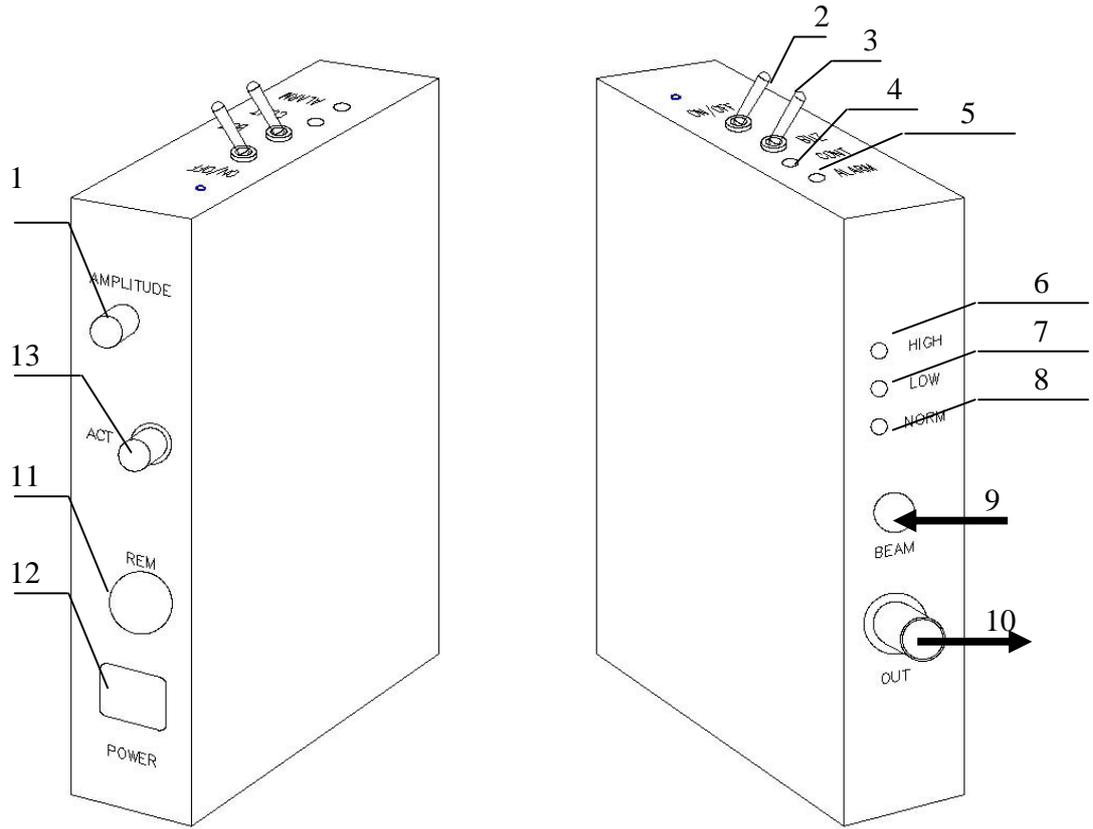

Figure 5.2
5. Direct a part of output radiation (≤ 10 mW) to the photodiode of the LS-6.0. At suitable level of light, the green LED "Normal" is on (8 in Fig 5.2).
6. Connect the 50-Ohm BNC connector (10 in Fig.5.2) of the LS-6.0 to a 400 MHz oscilloscope.
8. Switch on pulse-enable switch (2 in Fig.5.2). Green LED "control" (4 in Fig.5.2) lights on.
9. Rotate amplitude adjust (1 in Fig.5.2) clockwise (i.e. maximize deviation of prism).